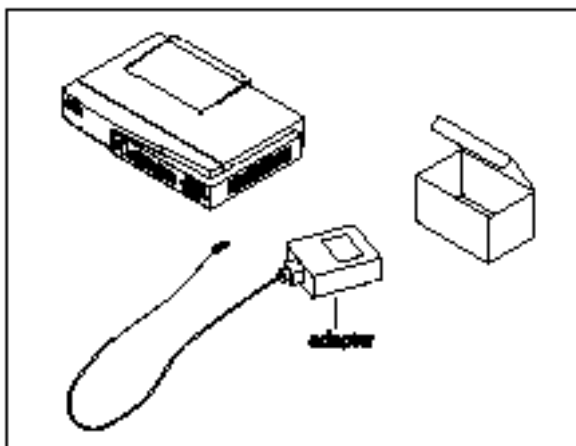

Figure 2-2 Put the hub on desktop and find the proper power adapter
2.1.2 Place the hub on the desktop and remove the packing box of the power adapter, as shown in *Figure 2-2*.